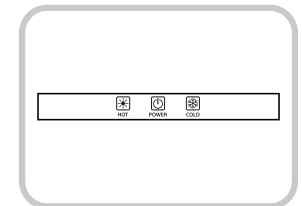

Fig.4
6. Turn ON the hot water switch, wait a couple of minutes and turn ON the cold water switch. Allow the unit to reach the minimum cold and hot water temperatures. This will take approximately 45 minutes and the Indicator Lights will turn OFF. (Fig. 4)